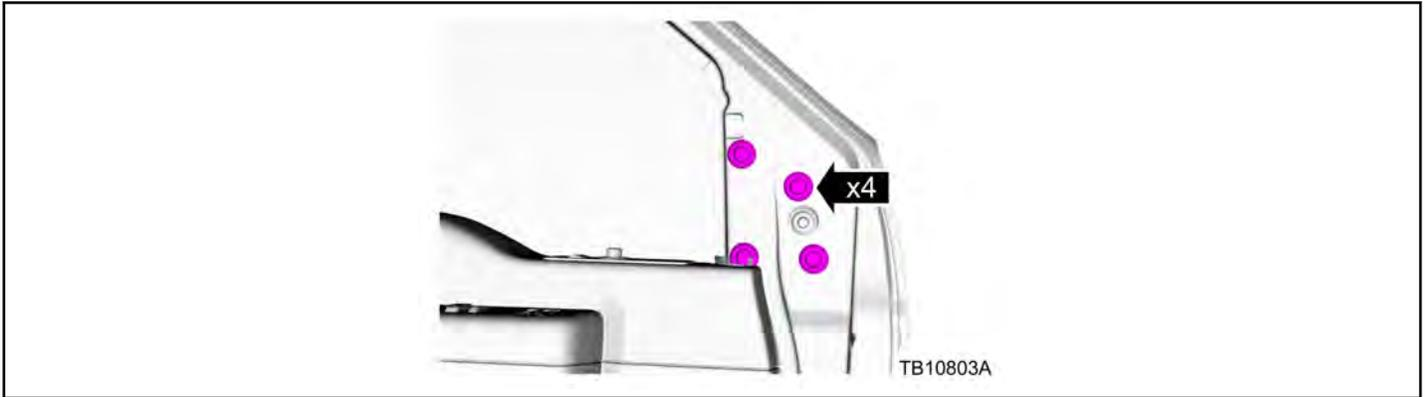

Figure 4 - Article 15-0164
- (1) Remove the three (3) lower and two (2) upper attachment bolts securing the exterior tubular stainless steel west coast style mirror bracket to the door and remove the mirror assembly from the door.
- (2) Remove the interior sail covers from the doors to access the mirror mounting area.
- (3) Remove the four (4) rubber plugs to access the sail panel retainers.
- (4) Remove the exterior sail panel. Refer to Workshop Manual (WSM), Section 501-09.
- (5) Attach the non-heated sail mirror to the door and install the four (4) mirror attachment nuts. Tighten to 11 Nm (97 lb-in.). (Figure 4)
- (6) Install the four (4) rubber plugs that cover the sail panel retainers.
- (7) Repair any exterior door damage or unused mounting holes as needed. Refer to WSM, Section 501-35. Repair is complete.
- 8. Remove the four (4) rubber plugs to access the sail panel retainers.
- 9. Remove and discard the four (4) exterior sail panel attachment nuts. (Figure 4)
10. Remove the three (3) lower and two (2) upper exterior tubular stainless steel west coast style mirror bracket attachments bolts and remove the mirror assembly from the door.
12. Feed the new sail mirror wire harness through the access hole in the sail mount surface as the mirror assembly is placed into its mounting position and install the four (4) mirror attachment nuts. Tighten to 11 Nm (97 lb-in) (Figure 4).
13. Install the four (4) rubber plugs that cover the mirror retainers.